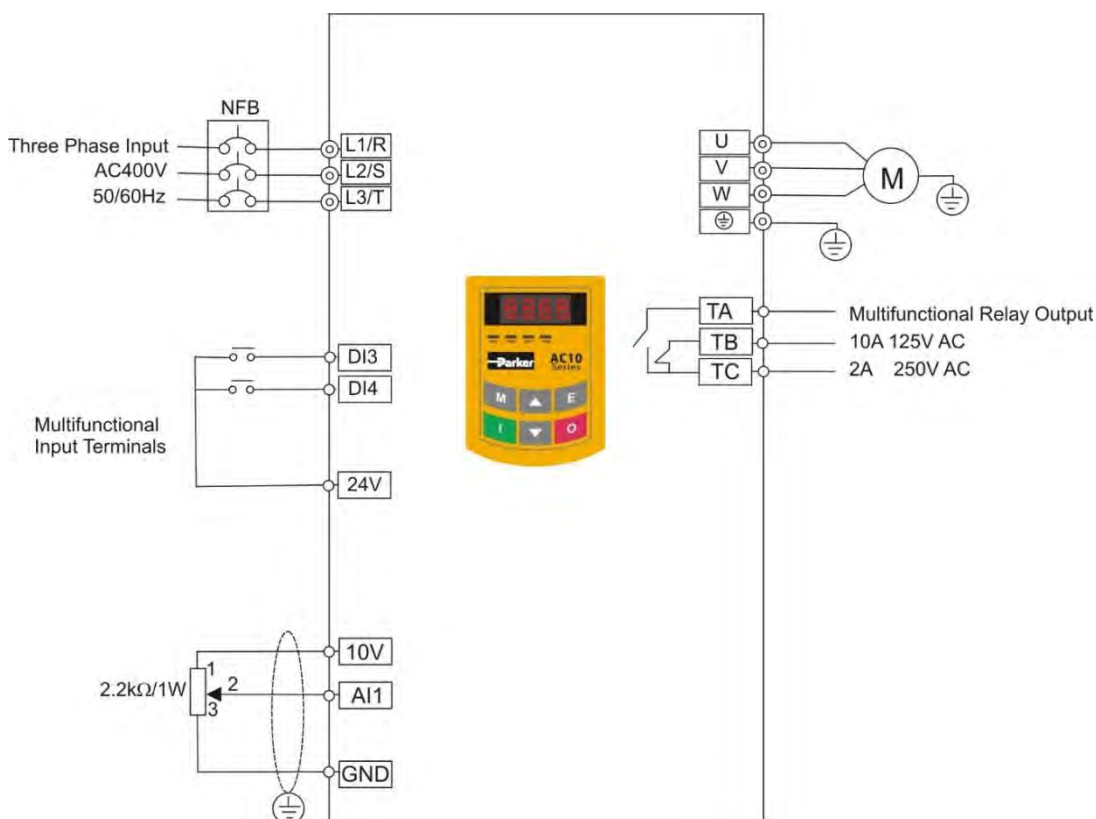

Figure 8-3 Wiring Diagram 3
- i. Connect the wires in accordance with Figure 8-3. After having checked the wiring successfully, switch on the mains supply, and power on the inverter. Note: 2K~5K potentiometer may be used for setting external analog signals. For the cases with higher requirements for precision, a precise multiturn potentiometer is recommended, and adopt shielded wire for the wire connection, with near end of the shielding layer grounded reliably.